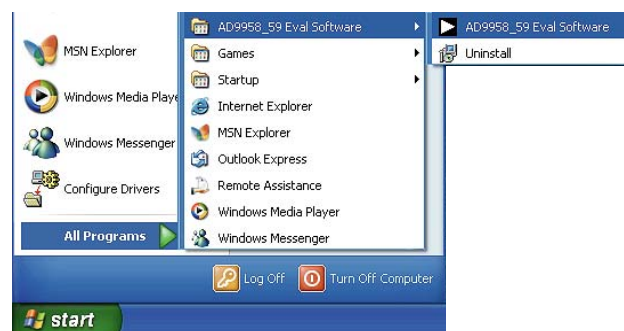

Figure 13.
3. Select **Programs**, then the **AD9958_59 Eval Software folder**, and then **AD9958_59 Eval Software** to load the software (see Figure 13).